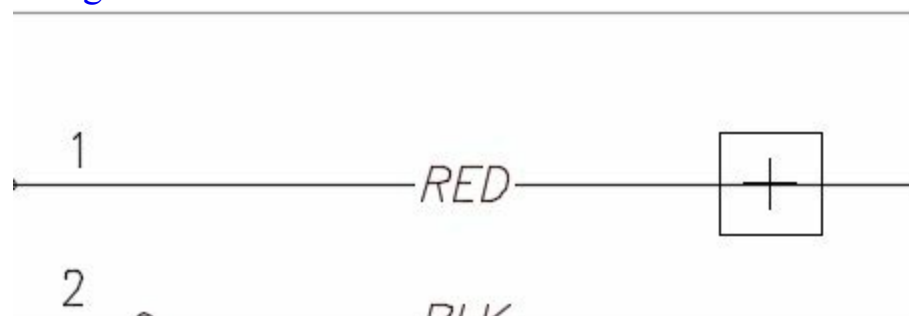

Figure-27. Scooting component
- Click on the desired entity. A box will be attached to the cursor representing the component; refer to Figure-27.